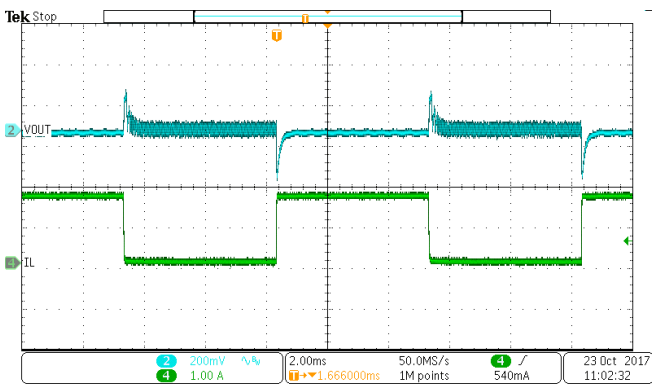

Figure 19. Load Transient
The SCT2323 and SCT2325 feature external programmable output voltage by using a resistor divider network R1 and R2 as shown in the typical application circuit Figure. 19. Use equation (11) to calculate the resistor divider value.